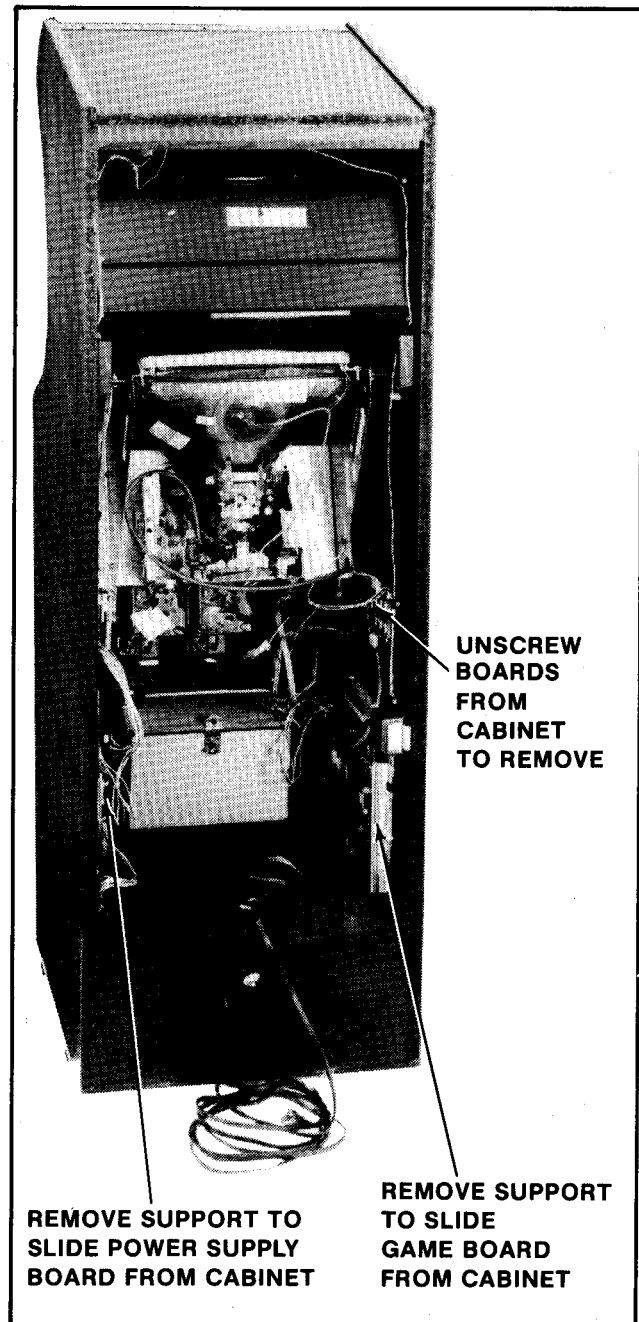

Figure 4-13 Removing P.C.B.s — Mini
**2. MINI MODEL:** See Figure 4-13.
- Disconnect the power supply board from its cabling, remove the P.C.B. supports indicated in Figure 4-13, and slide it out the back of the cabinet.